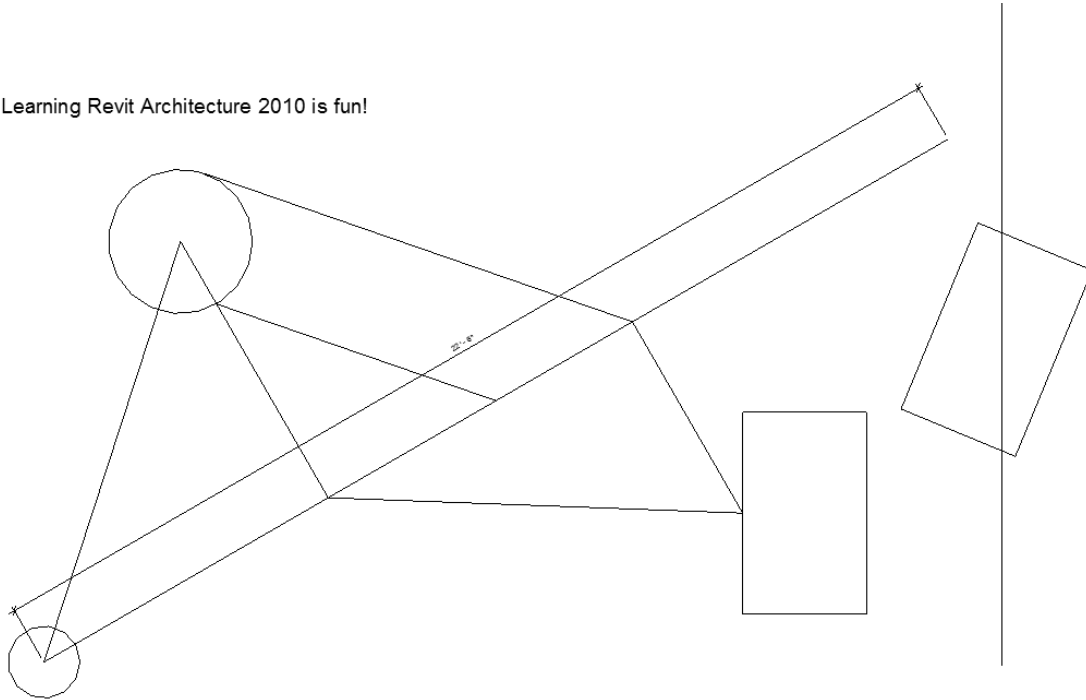

Figure 3-4.5 Text tool; text added to current view
Your text should generally look similar to Figure 3-4.5. Text can be Moved and Rotated with the tools on the *Ribbon* (only) when the text is selected.
9. Print your drawing, refer back to page 2-15 for basic printing information; your print should fit the page and look similar to Figure 3-4.5.